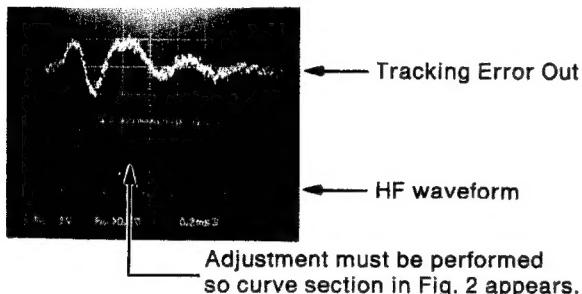

Fig. 2
4. Push the **POWER** button to switch the power on and **PLAY** the first item on the test disc, and the push the **PAUSE** button. Now observe the waveforms for **HF** and **TE** with triggers applied from the **THLD** test terminal (TP52-6) pin. At this point, adjust the potentiometer (P56) so that a kick pulse waveform of about 1 to 1.3 tracks as shown in Fig. 2 below is obtained.